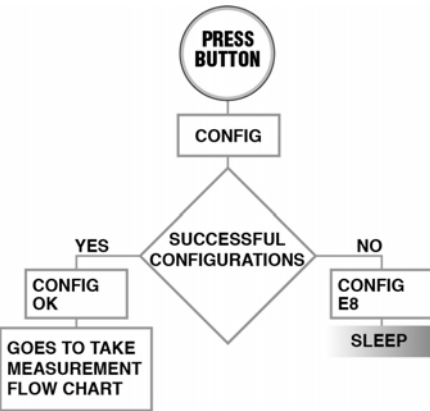

FIG. 4
- Press and hold the Display button (A) again to configure the profile for the TLM in the Pulse software.
- The display reads "CONFIG OK" as shown in FIG. 4, page 6 when the TLM Profile is registered with the Pulse software.
If the TLM Profile did not register with the Pulse software the error message "CONFIG E8" displays (Step 2, FIG. 4).